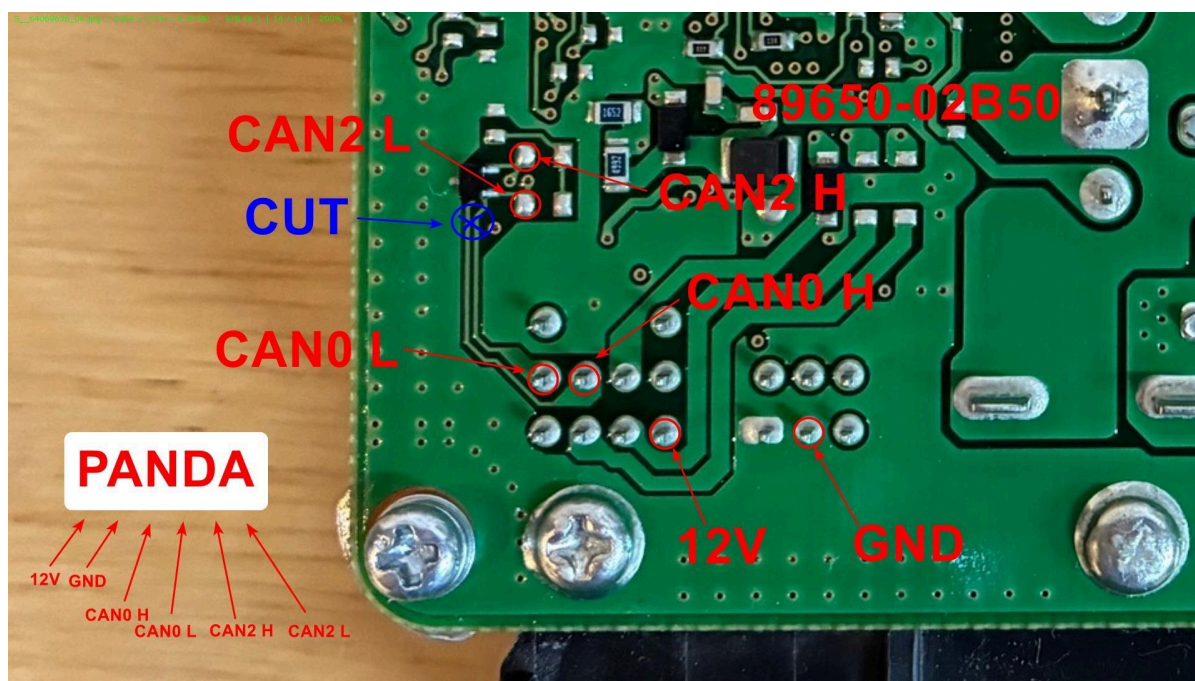

FIG2 — tap-point map: CAN2 H/L, CAN0 H/L, 12V, GND, plus the blue CUT point; bottom-left shows the PANDA pin order
The most critical and irreversible step. Before cutting, use a multimeter and cross-check FIG0 and FIG2 to confirm these are exactly the E40-7 (CANH) / E40-8 (CANL) traces going to the chip.
3. At the blue ⊗ **CUT** mark in FIG2, locate the two traces for E40-7 / E40-8.
Following FIG2, find the six pads and solder the signal wires. FIG2 (bottom-left) also shows the pin order on the panda side.
PANDA pin order (FIG2 bottom-left, left to right):